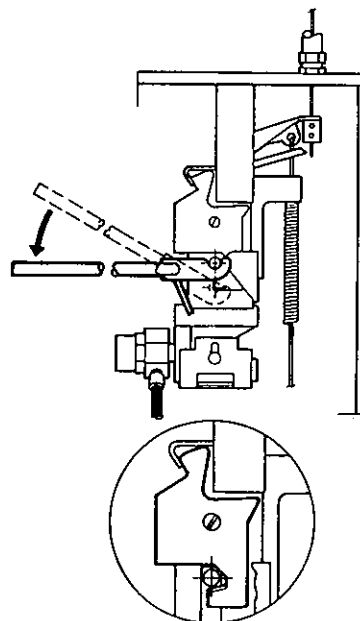

FIGURE 16
18. Cock the regulated release mechanism using cocking lever (Part No. 14995). See Figure 16.